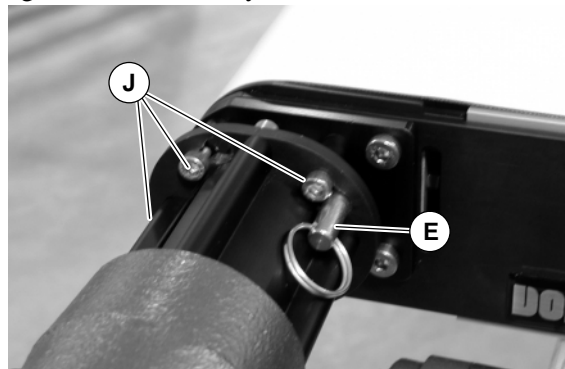

Figure 9
2. Loosen the four (4) coupling lock screws (J of Figure 9), remove anti rotation pin (E). Rotate and remove gearmotor assembly.